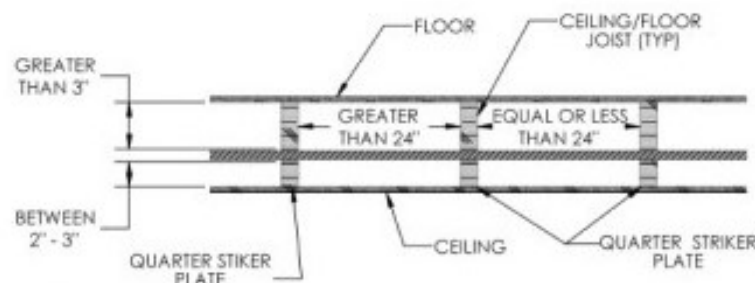

Figure 4.8
- B. At concealed support points and points of penetration within 2 to 3 inches from any stud, joist, plate, etc., listed quarter striker plates are required at the area of support. Figure 4.7 and Figure 4.8 show proper means of protection for this type of installation.